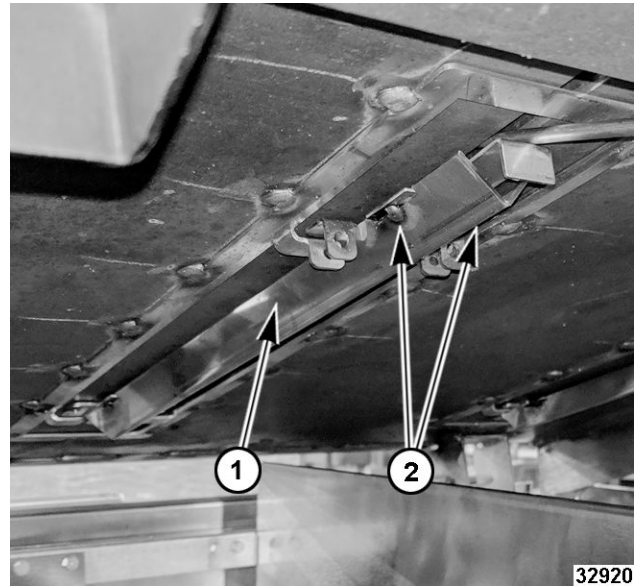

Fig. 102
12. Verify bulb is seated properly and shield (1, Fig. 102) is back in place, fasten tight with two screws (2, Fig. 102).